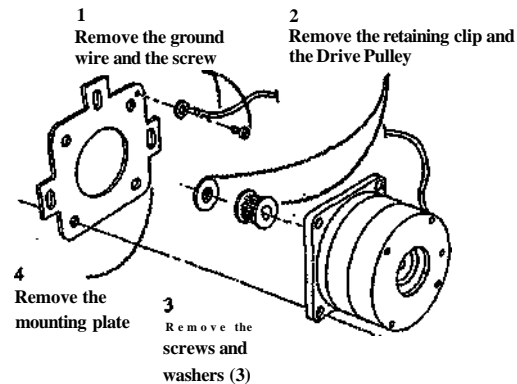

Figure 2. Removing the Motor
7. (Figure 2): Remove the motor from the mounting plate.